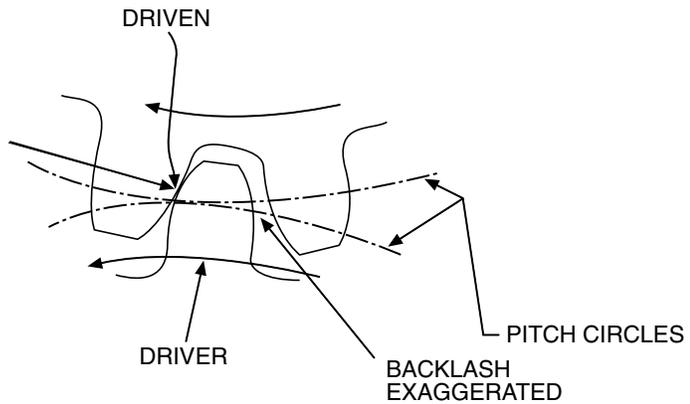

Figure 2.6
**BACKLASH** is the distance (spacing) between two "mating" gears measured at the back of the driver on the pitch circle. Backlash, which is purposely built in, is very important because it helps prevent noise, abnormal wear and excessive heat while providing space for lubrication of the gears. (See Figure 2.6)